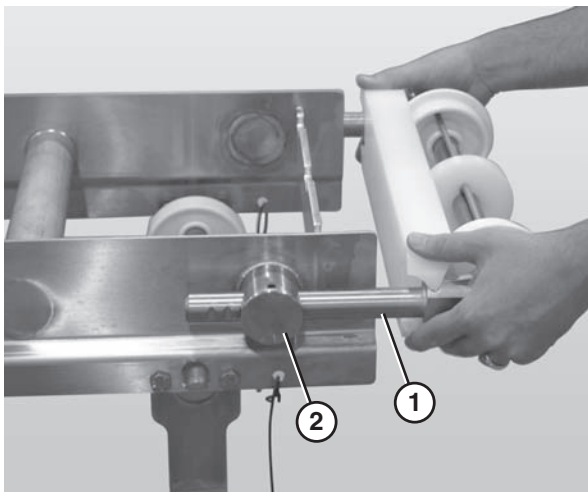

Figure 72
2. Slide the idler tail assembly (**Figure 72, item 1**) out of the take up blocks (**Figure 72, item 2**).